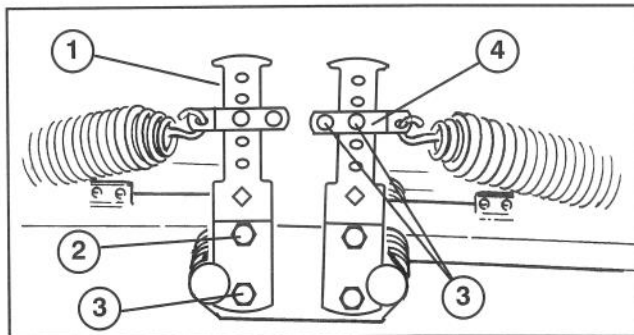

Figure 9
(Figs. 9–11)
1. Loosen top capscrew securing counterbalance arm to frame (Fig. 9).